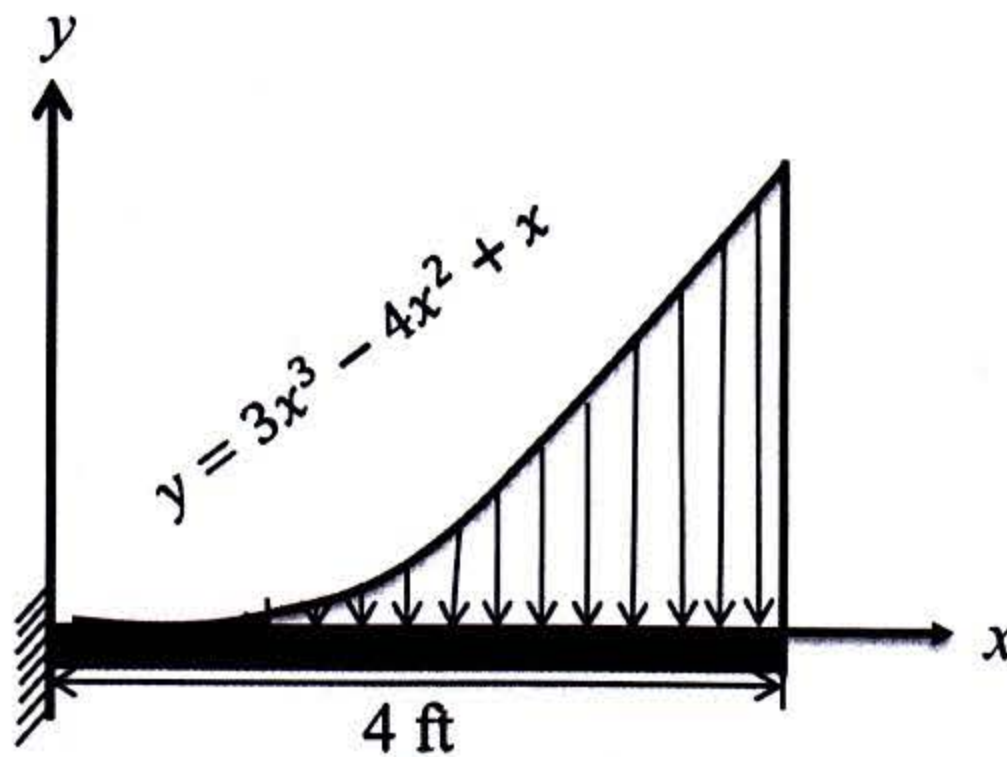

Figure: 01
01. For the cantilever beam as shown in Figure: 01, the equation of the variation of distributed force on the beam is: $y = 3x^3 - 4x^2 + x$ where, x is the distance from left. Determine the upward support reaction force using the equation $R = \int y dx$ applying the following methods and compare the results with the exact solution.